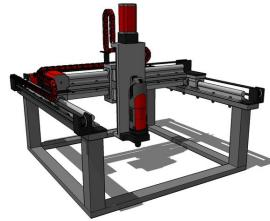

Figure 2.8: 3D printer
**3D printers:** There are open source 3D printers based on Arduino and Raspberry Pi. Although 3D printers, shown in Fig. 2.8, are relatively slow and lack precision, but they can be ideal for building prototypes by hobbyists [10].